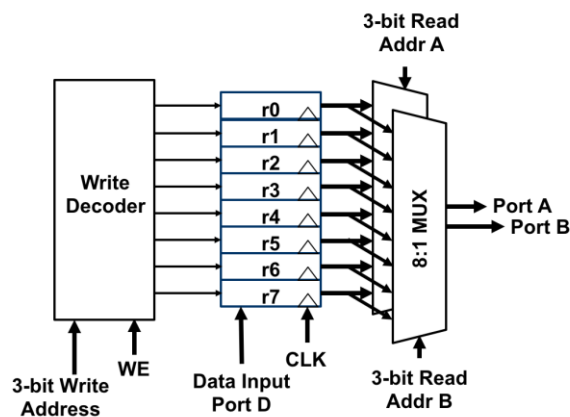

Figure 3 – Triple-ported Register File
To implement the 3-port version, there will need to be two multiplexers at the output instead of one (see Figure 3). The two output ports are called “Port A” and “Port B”. Each output port is 4-bits wide. The data input port will receive 4-bit data from the “Register Input Data MUX.” The other inputs are the clock (CLK), a 1-bit write enable (WE), a 3-bit write address, and two 3-bit read addresses. The output ports connect to the ALU inputs and to the ASCII display input.